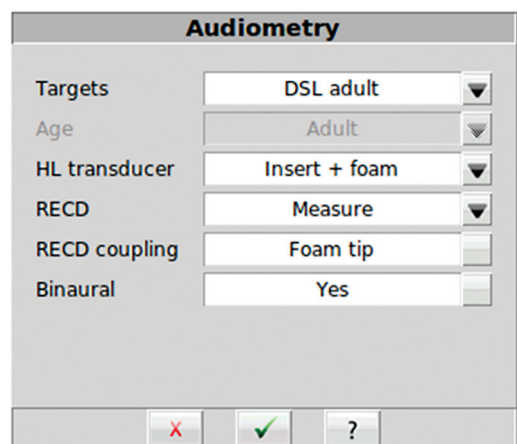

Figure 9 Audiometry menu options.
5. Select **Audiometry**. Select the appropriate options as they apply to the patient (Figure 9).